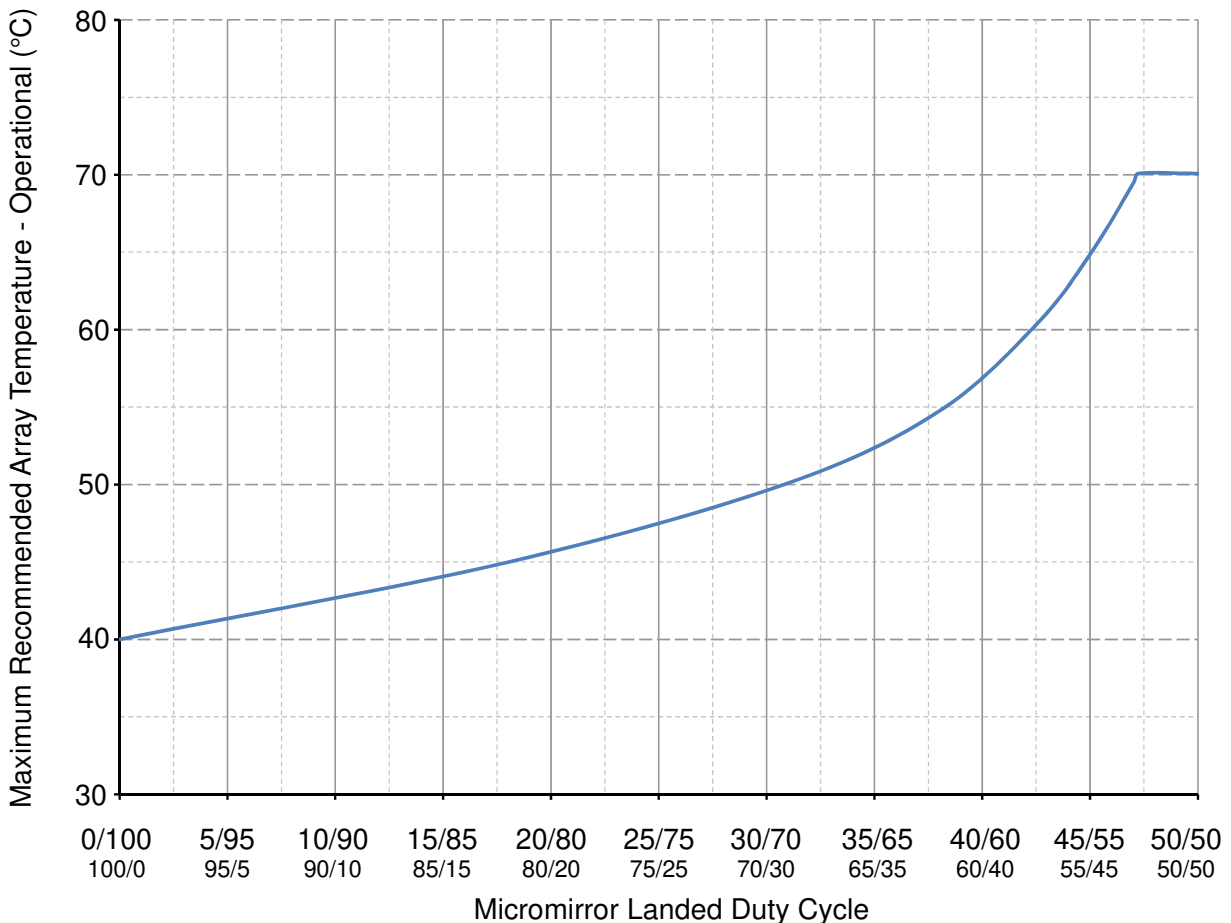

Figure 6-1. Max Recommended Array Temperature—Derating Curve
- (16) Per Figure 6-1, the maximum operational array temperature will be derated based on the micromirror landed duty cycle that the DMD experiences in the end application. See Section 7.7 for a definition of micromirror landed duty cycle.
- (17) Long-term is defined as the usable life of the device.
- (18) Array temperatures beyond those specified as long-term are recommended for short-term conditions only (power-up). Short-term is defined as cumulative time over the usable life of the device and is less than 500 hours.